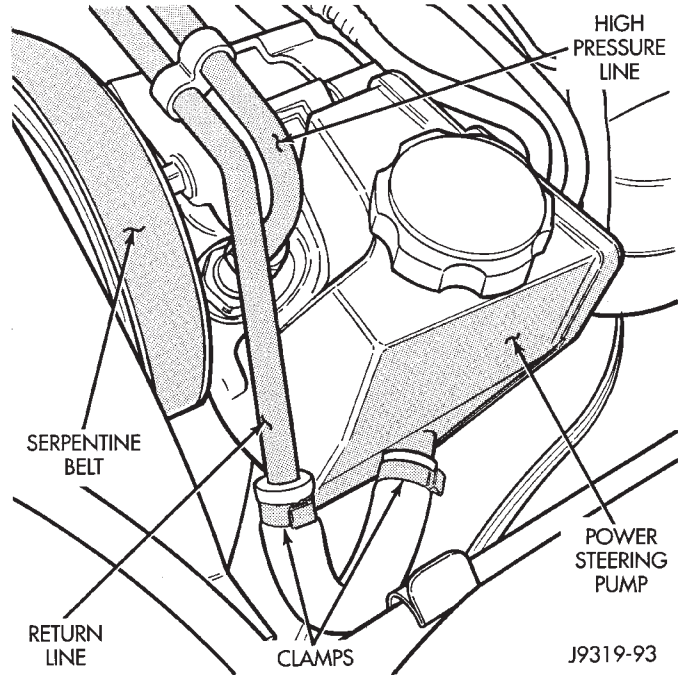

Fig. 4 Fluid Lines At Pump
- (3) Disconnect the pressure and return line from the pump (Fig. 4). Drain the fluid from pump and reservoir.